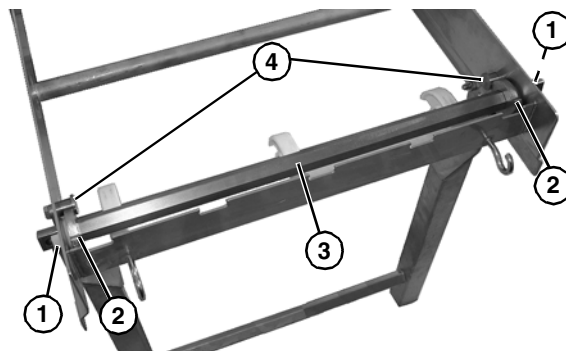

Figure 20
- Slide the tip up sleeves (**Figure 20, item 1**) and stop keys (**Figure 20, item 2**) outward on hex shaft assembly (**Figure 20, item 3**) until the sleeves seat in the holes of the frame and stop keys are seated against frame stops (**Figure 20, item 4**).